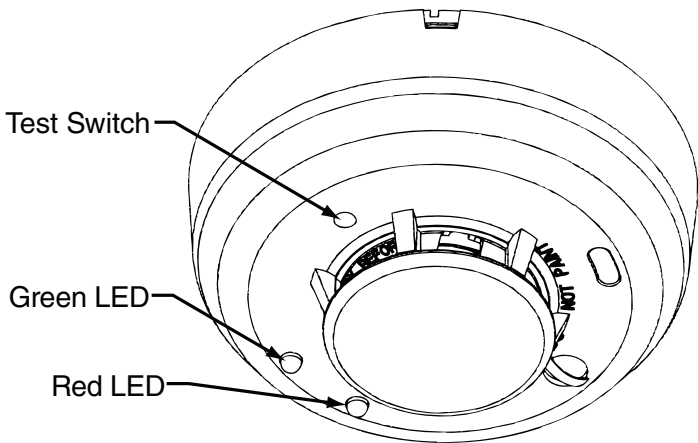

Figure 4: Silent Call Model #SD4-SS Wireless Smoke Detector
- In dead air spaces at the top of a peaked roof or in the corners between ceilings and walls. Dead air may prevent smoke from reaching the detector. See figures 4 and 5 for recommended mounting location.